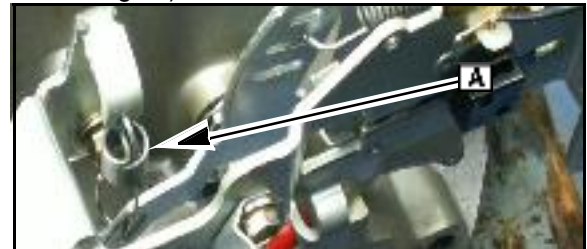

Fig. 41
4. Connect the idle control spring ([A] Fig.41).